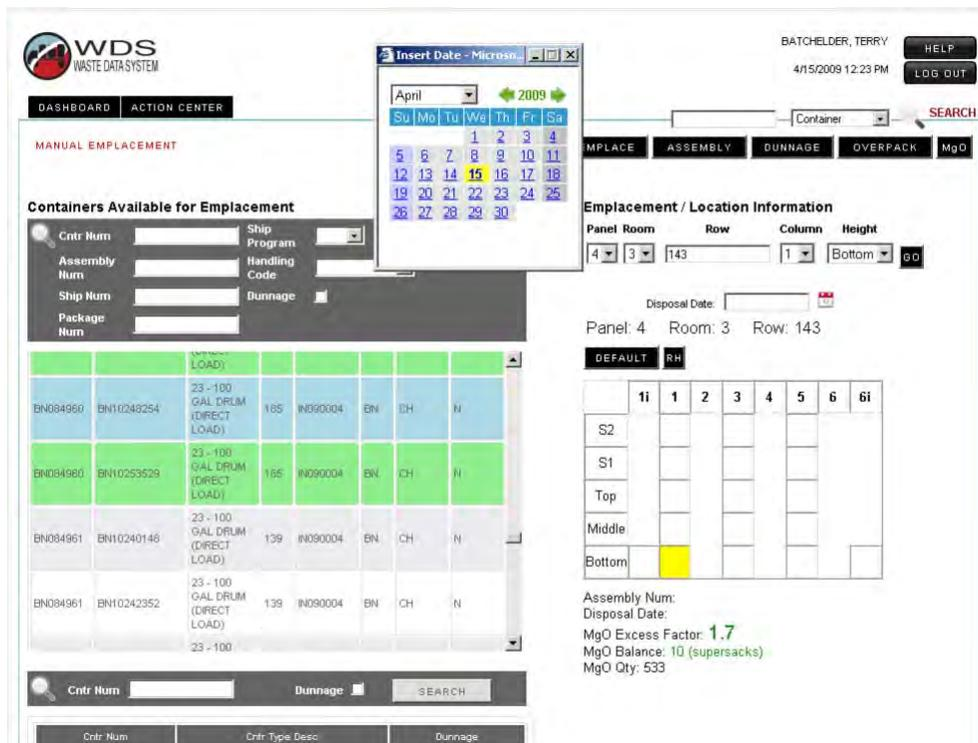

Figure 5 - 3 – CH Screen for Waste Emplacement
- C. Select the Disposal Date from the calendar, as found in Figure 5 - 3.